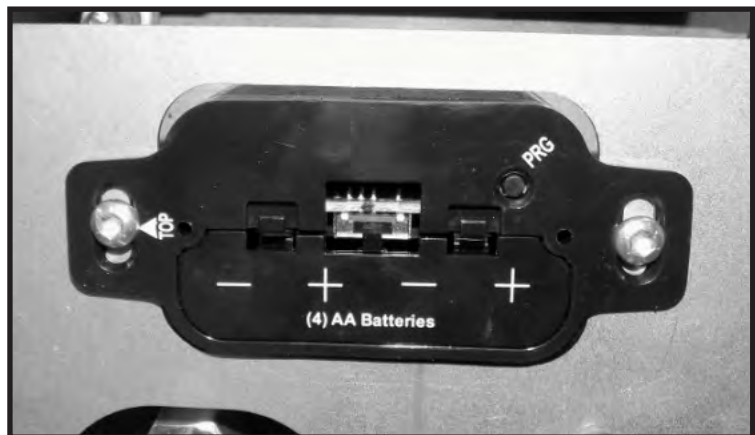

Figure 4: On-off switch.
1. Install 4 AA batteries into the battery holder (Figure 4) located behind the Screen/Surround, below the firebox. Make sure that the selection switch is on the "Remote" setting.
4. Locate the button marked "PRG" (Program) on the ON/OFF switch (Figure 4) and press the program button once. The module will beep 3 times indicating that it is ready to synchronize with a remote transmitter.